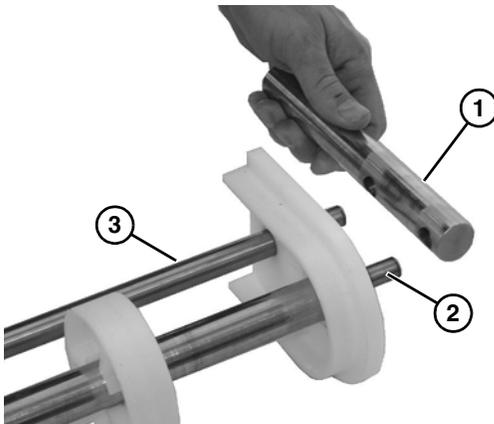

Figure 57
2. Remove the bearing end rod (**Figure 57, item 1**) from idler shaft (**Figure 57, item 2**) and pinch guard shaft (**Figure 57, item 3**).